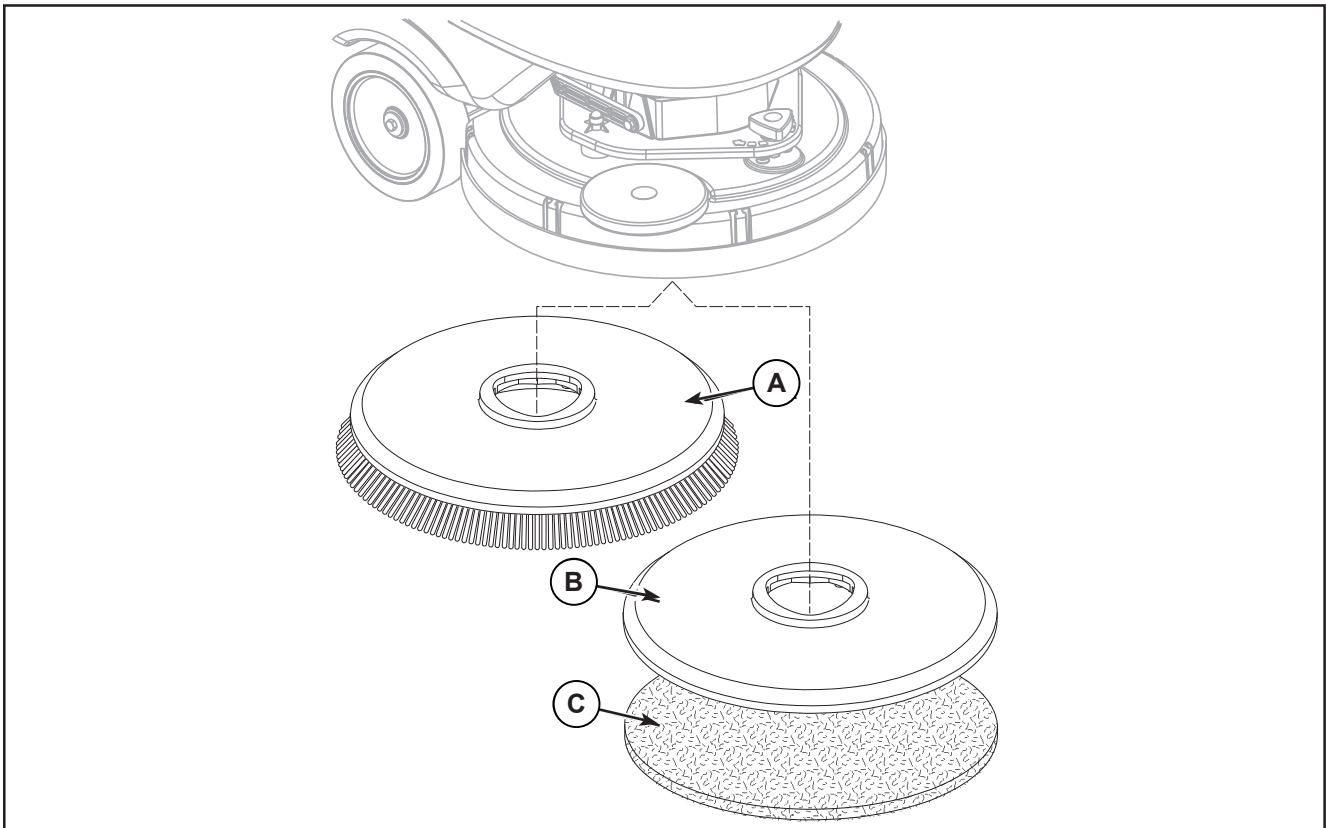

Figure 5:
1. According to the kind of cleaning to be performed, the machine can be equipped either with the brush (A) (Figure 5) or the pad-holder (B) with pad (C) together with the appropriate deck.
4. With the brush deck raised, position the brush (A) or pad-holder (B) under the deck.
6. To engage the brush, press the paddle (2), then release it. If necessary, repeat the procedure until the brush is engaged.